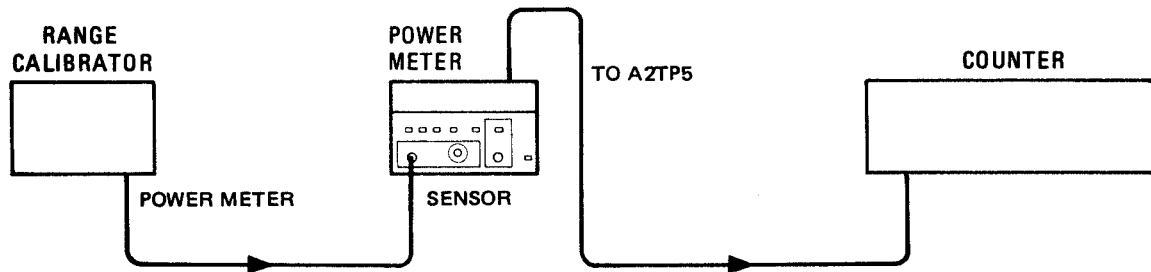

Figure 5-4. Multivibrator Adjustment Setup
3. Connect the equipment as shown in Figure 5-4.